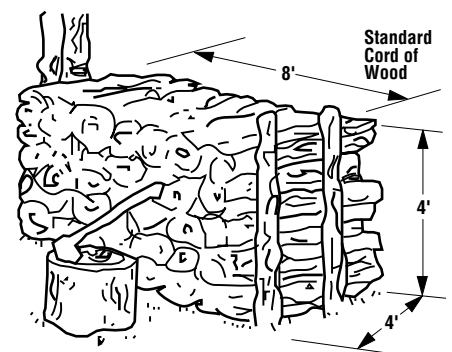

Figure 1
8. Be a knowledgeable wood buyer. There is a difference in cord sizes. A standard cord stack of logs is 4 ft. high by 8 ft. long by 4 ft. deep or the equivalent of this cubic footage, (*Figure 1*).